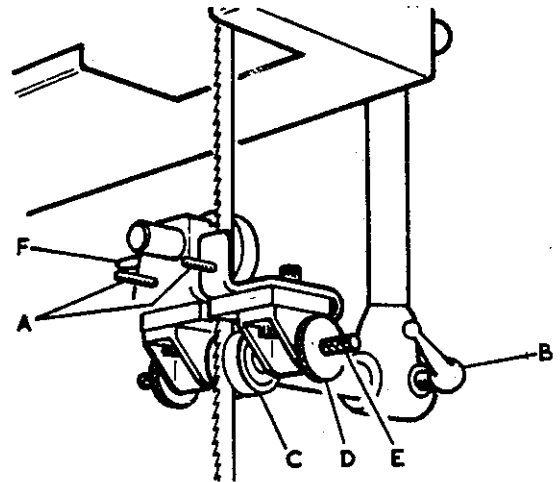
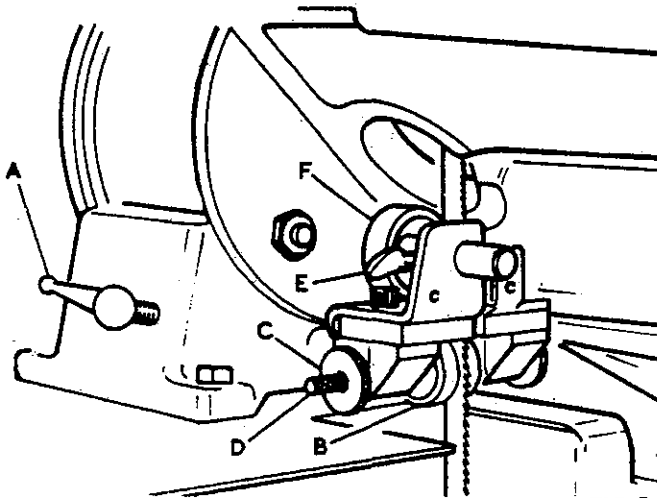

FIG. 6
FIG.8
3. Remove sawguard and move the top and bottom guides to the extreme rear position by loosening locking screws 'A' for top guide (Fig. 6) and 'A' for bottom guide (Fig. 8).
1. Loosen 2 knurled nuts from studs 'A' in Fig. 6, then remove sawguard.
1. Bring guide assembly forward by loosening ball lever screw 'A' in Fig. 8 until side roller guides 'B' are positioned just behind the gullet of the sawblade.